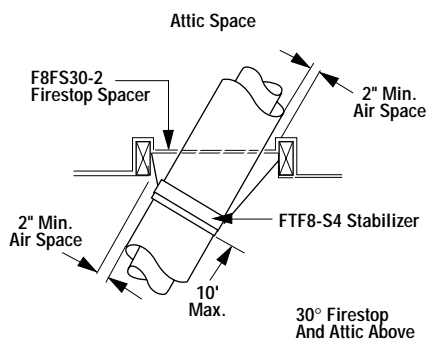
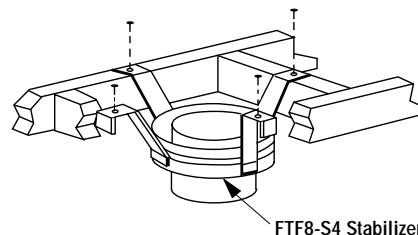

Figure 21
Figure 26
It may be necessary to assemble the chimney at 30° when passing through the floor or ceiling area. Use the F8FS30-2 firestop spacer as shown in Figures 21 and 22. Support the chimney at floor or ceiling penetration with a FTF8 stabilizer if distance of chimney below ceiling is 10' or more. Maintain 2" minimum air space to combustibles from chimney sections.
Install the Model FTF8-S4 stabilizer by fitting inner section down into respective section of proceeding flue pipe and locking outer stabilizer section into place over the outer chimney pipe. Position for proper clearance through framed opening and nail straps securely (under tension in "shear") into place on framing. Use 8d nails. Attach successive lengths of chimney pipe directly to stabilizer using same techniques as described in Step 4 (Figure 26).
Step 1. Use Offset Chart to determine amount of horizontal offset (A) and height (B) for various chimney section assemblies.
Step 3. Use Elevation Chart as job estimator only. Add necessary firestop spacers and stabilizers as required. Firestop spacers must be used as shown in *Figures 21 and 22* and stabilizers as shown in *Figure 26*.